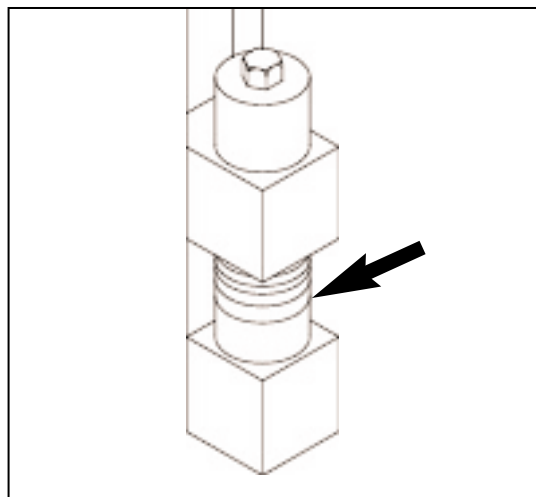

Figure 4.40 83mm [3 1/4"] OF SPACERS.
- e. Store spacers on bottom side of bolt for front bolts and left hand rear bolt. For right hand rear bolt store spacers on top. Tighten bolts at all 4 corners that secure mold throat plate spacers. (See figure 4.40).